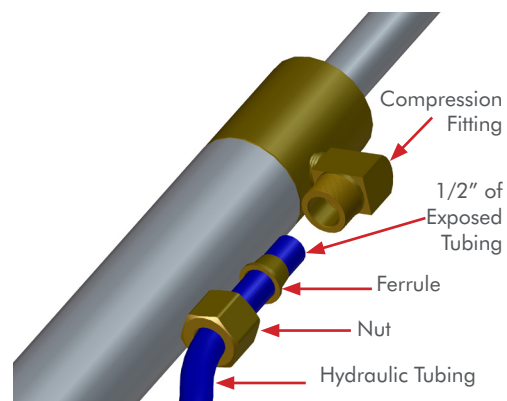

Figure 8
STEP 3 With both the **BLUE** and **BLACK Hydraulic Tubing** in line with their respective **Hydraulic Fittings**, feed them through a **Compression Fitting Nut** and **Ferrule**. **FIG 8**
IMPORTANT! The Tubing needs to pass through the ferrule far enough to expose approximately half an inch of Tubing. **FIG 8**